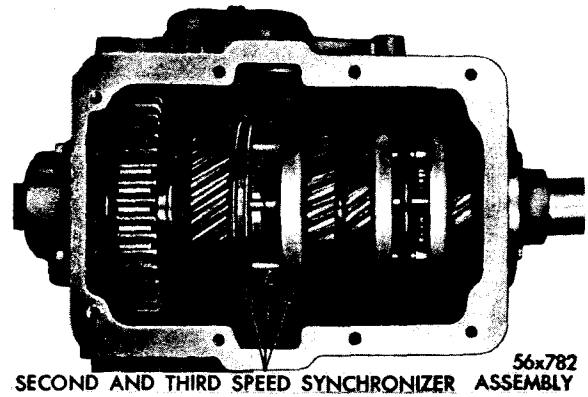

Fig. 16 — Positioning 2nd and 3rd Speed Synchronizer Pins
d. Transmission Cover (Refer to Fig. 16)
e. Transmission Cover (Refer to Fig. 16)